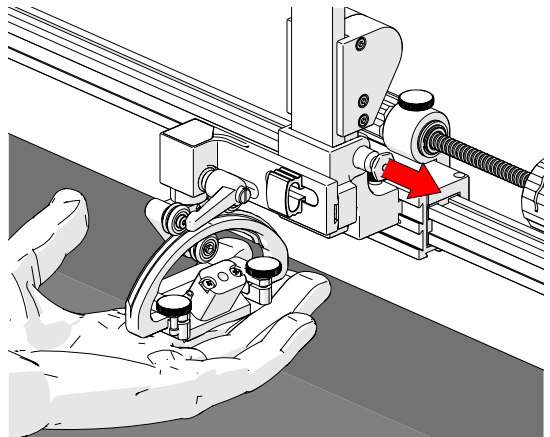
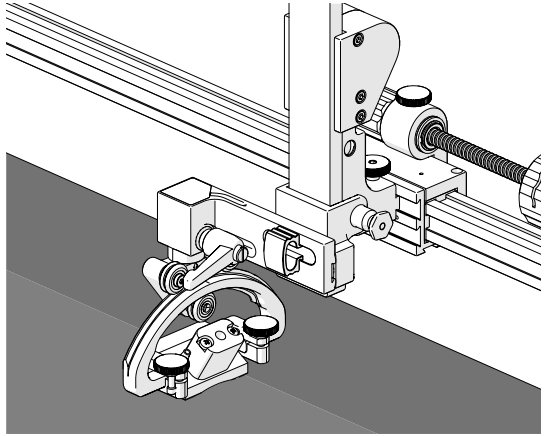

Fig. 212 - Pull latch pin
Fig. 213 - Lower probe to inspection surface
2. Pull the latch pin (Fig. 212) and slowly lower the probe holder to the scan surface (Fig. 213).